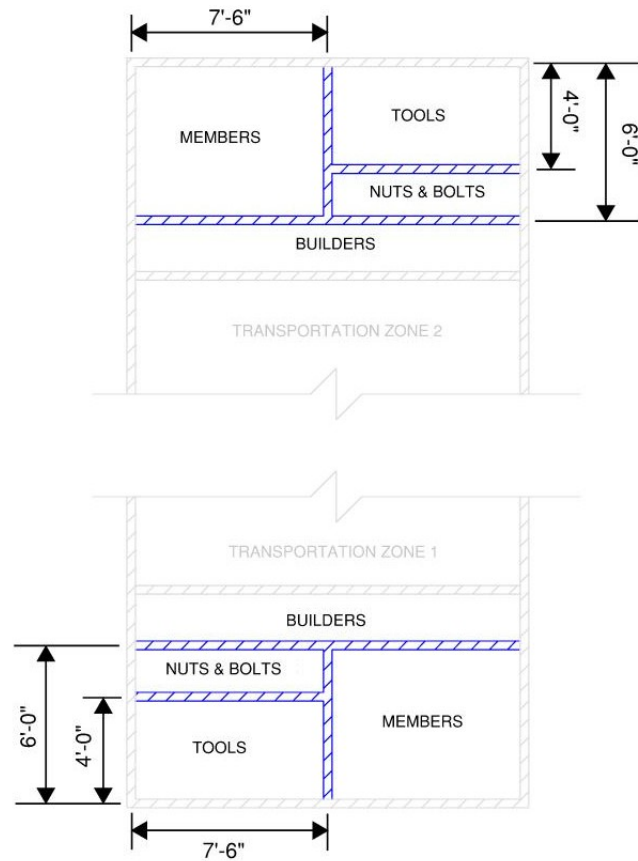

FIGURE 9 - LAY OUT AND APPLY STAGING YARD TAPE
1. Apply duct tape in each staging yard as shown in Figure 9. Measurements are to the centerline of the tape.